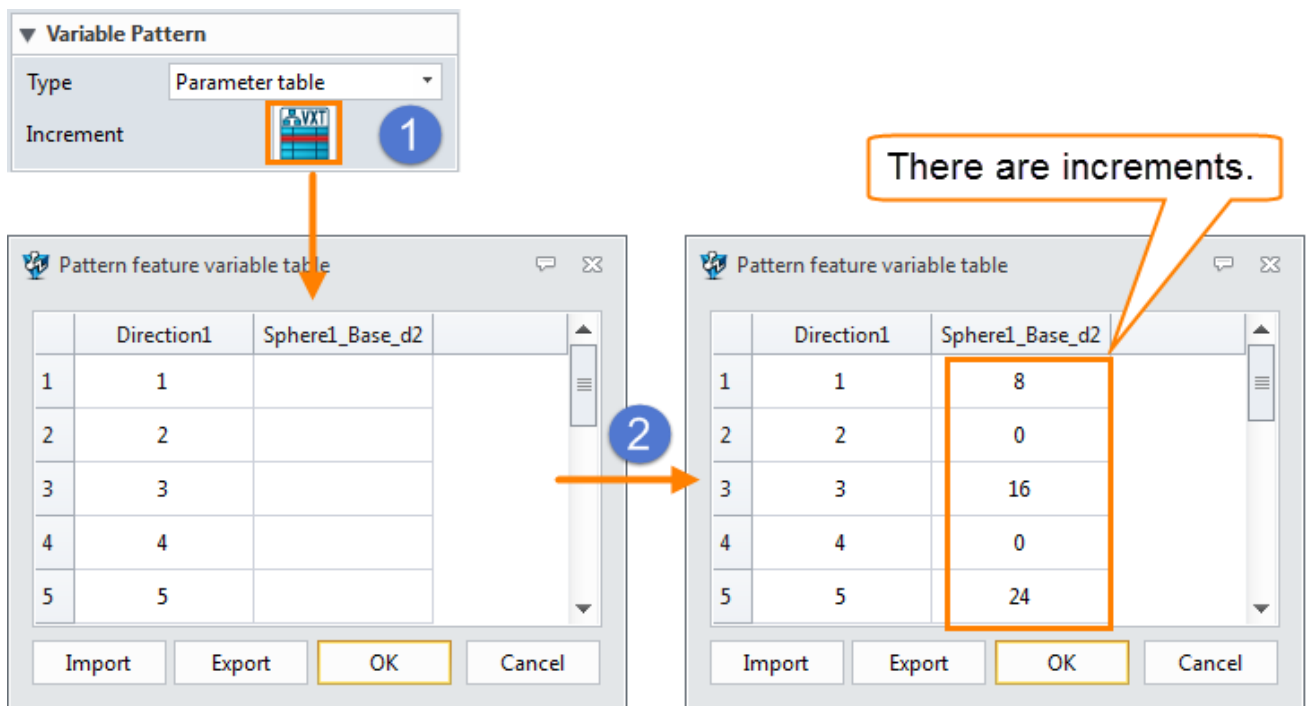

Figure 88 Variable Table
STEP 01 Click the table icon to get the feature variable table, as shown in the Figure88.